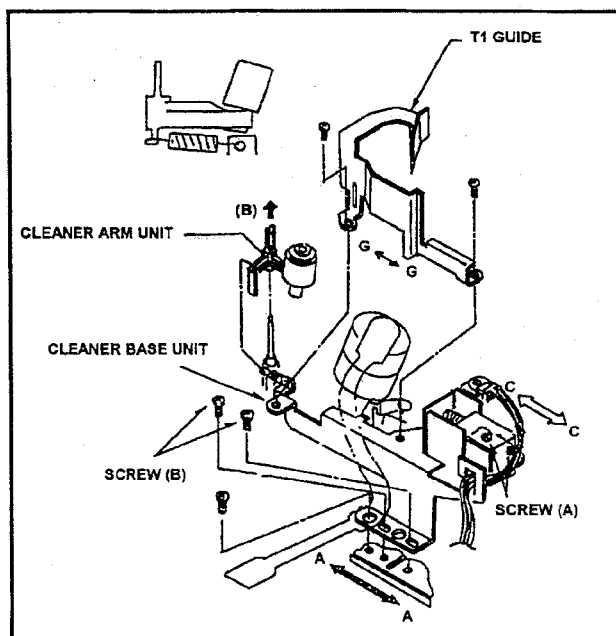

Fig. M20
3. Unscrew the 2 screws (A) and remove the Cleaner Solenoid Unit as shown in Figure M20.
4. Unscrew the 2 screws (B) and remove the Cleaner Solenoid as shown in Figure M20.